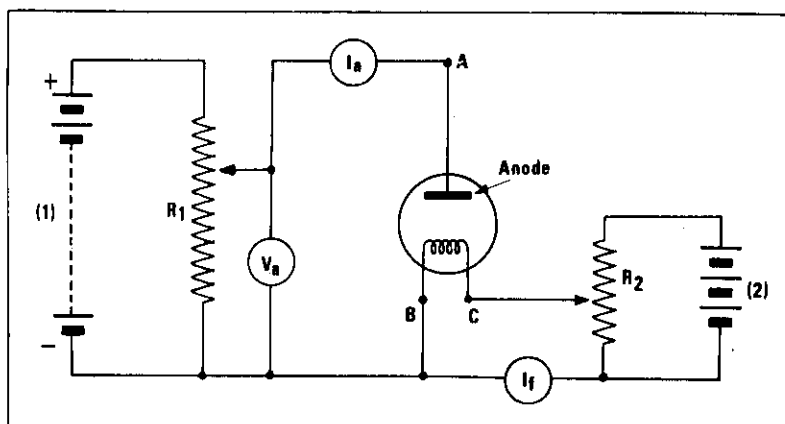

Fig. 2. The diode test circuit.
If we connect a vacuum diode into a test circuit, as shown in Fig. 2, we can carry out a simple experiment to show the behaviour of the device, i.e., to establish its characteristics. In the diagram (Fig. 2) the 2,000 volt battery (1) has a variable resistor  $R_1$ , connected across its terminals and by this means a variable, uni-directional voltage can be applied to the anode (A) of the diode. The other (negative) end of the battery is connected directly to point (B) on the diode, i.e. to the cathode. Thus, by varying the position of the slider of the potentiometer  $R_1$  (denoted by the arrow in the diagram) the degree by which the diode anode is positive with respect to the diode cathode, i.e. the voltage measured by the voltmeter  $V_a$ , may be varied.